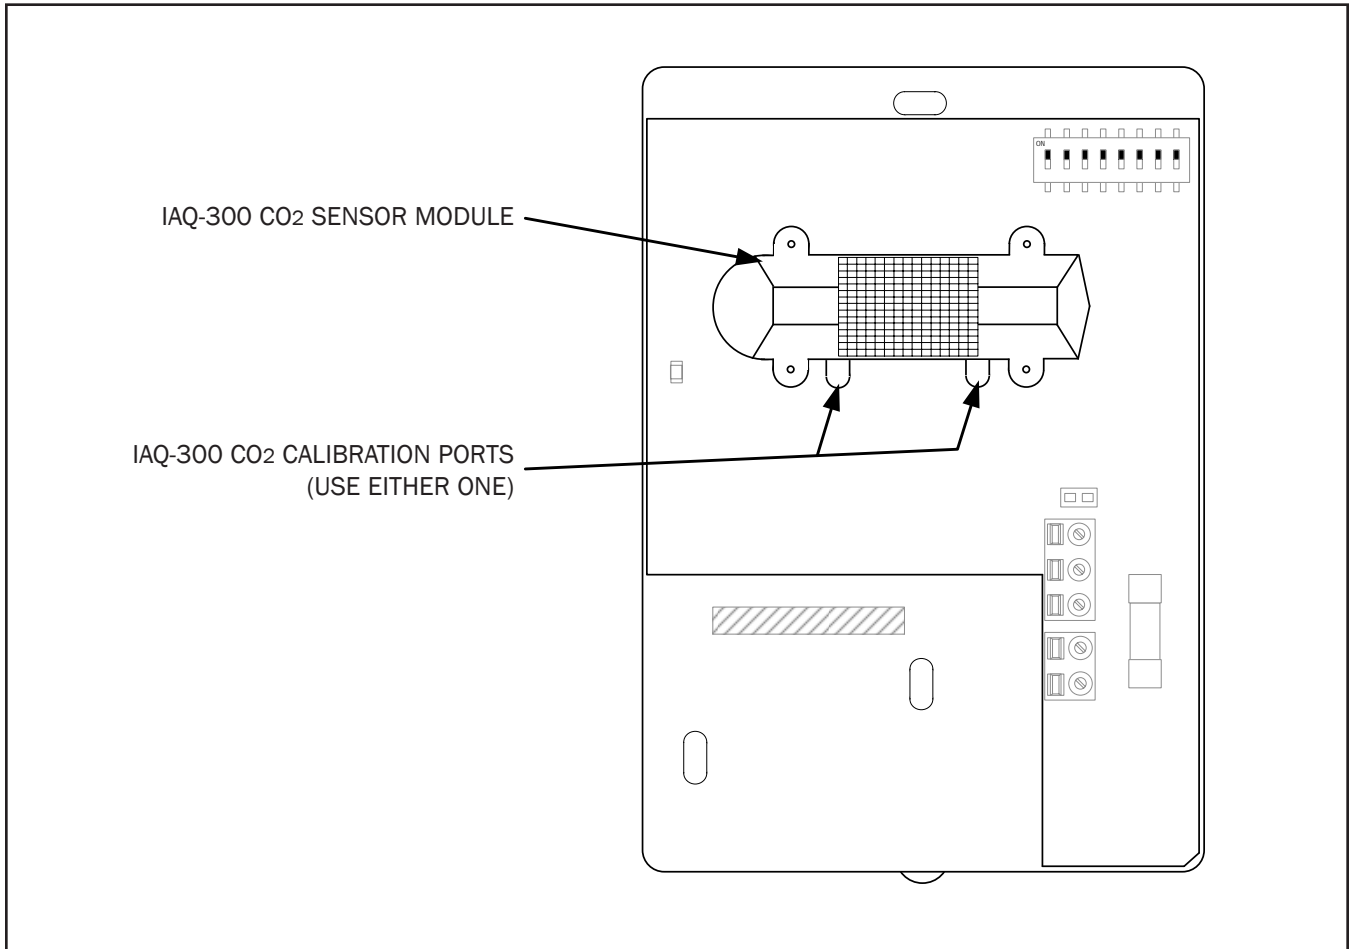

Figure 9. IAQ-300 CO₂ Calibration Ports
3. Remove the port covers from the IAQ-300 CO₂ calibration ports (Figure 9) and attach suitable tubing from the reference gas regulator to either port.